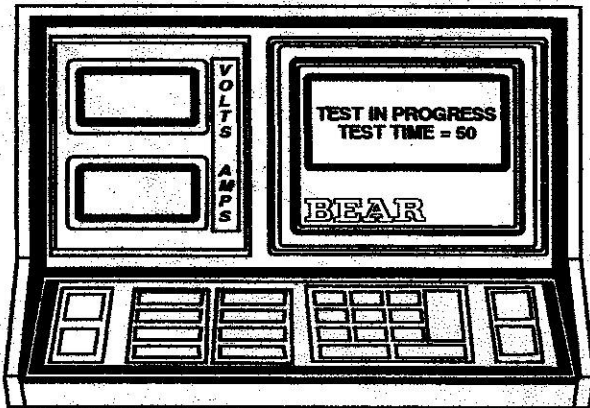

Figure 7
- C. Display reads "TEST IN PROGRESS" (see Figure 7).